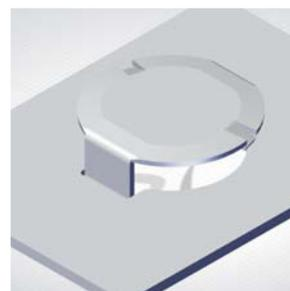

Fig. 5: Mini Valve
**Mini valves** (see Fig. 5) have a panel hole diameter of about  $\varnothing 24\text{mm}$  and normally two legs orientated towards inlet and outlet (like the rectangular valves). Their size helps to achieve a small pressure drop (same at sieve trays: The pressure drop of the identical open area of small holes is better than that of large holes) and a good coverage of the active area (easier to achieve by small elements than by larger ones). These advantages are in competition with higher production costs.